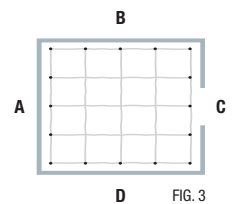

FIG. 3
- 3 Measure out the cradle centres along the perimeter lines by walls B and D. The cradle centres vary according to which batten is being used. For example, for the C40 system with a 43mm deep batten the cradles will be at 600mm centres. Using this example, measure 600mm along both B and D perimeter chalk lines, starting from the same end (e.g. wall A) and mark or ping a chalk line between the corresponding points to create a grid (Fig. 3).